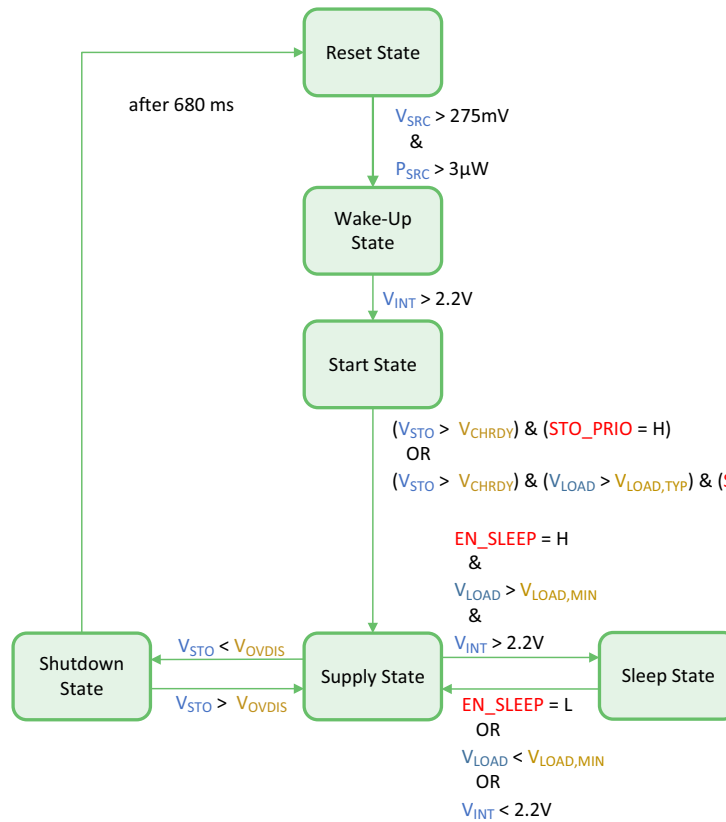

Figure 5: Diagram of the AEM30330 States
- If **EN_SLEEP** is HIGH and conditions (shown on Figure 5) on V_{LOAD} and V_{VINT} are satisfied, the AEM enters **SLEEP STATE** (see section 8.3.4).